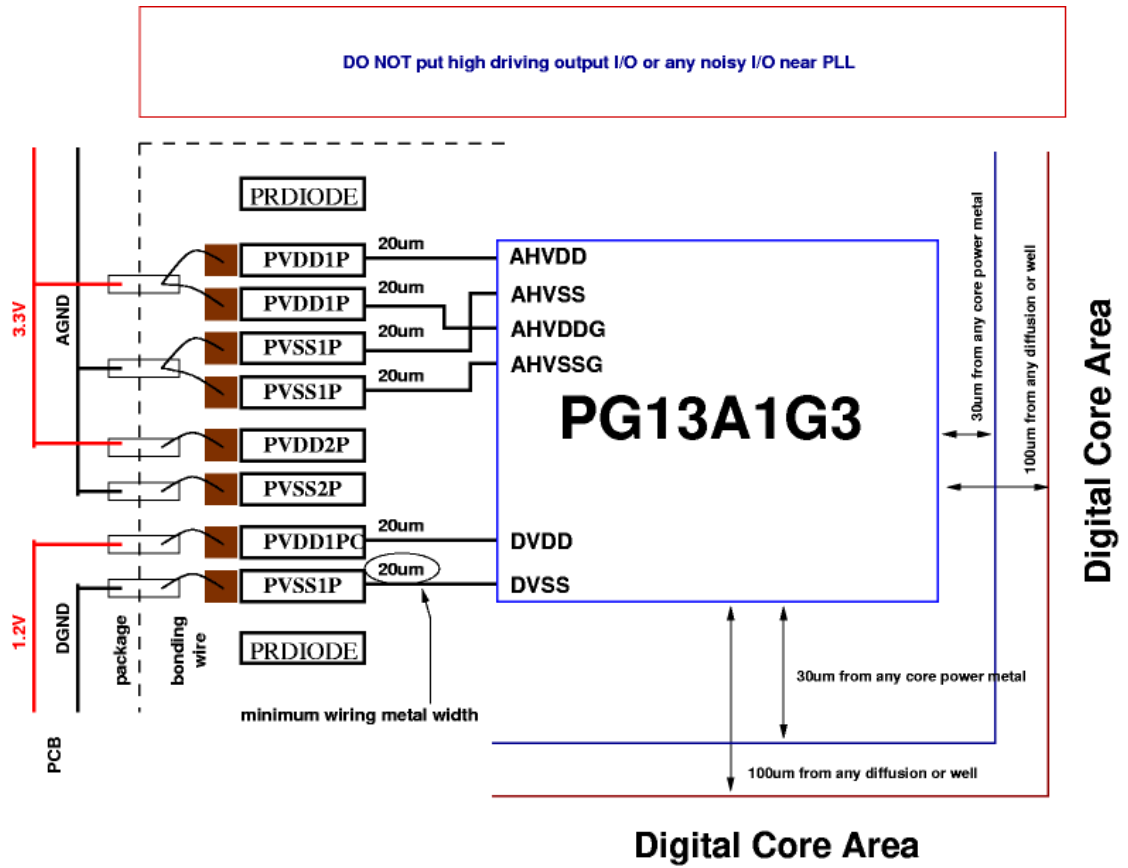

Fig. 3 Placement and Routing Consideration of PLL
- **Fig 3** is a placement and routing example of PG13A1G3 macro. In this example, **PRDIODE** power cut cells are inserted between power pads of PLL and other digital pads to isolate noise coupling. Double bonding is recommended at the power pad (**AHVDD, AHVSS, AHVDDG, AHVSSG**) to reduce the wire inductance. It is also suggested to minimize the bonding wire length of the power/ground pads if possible.